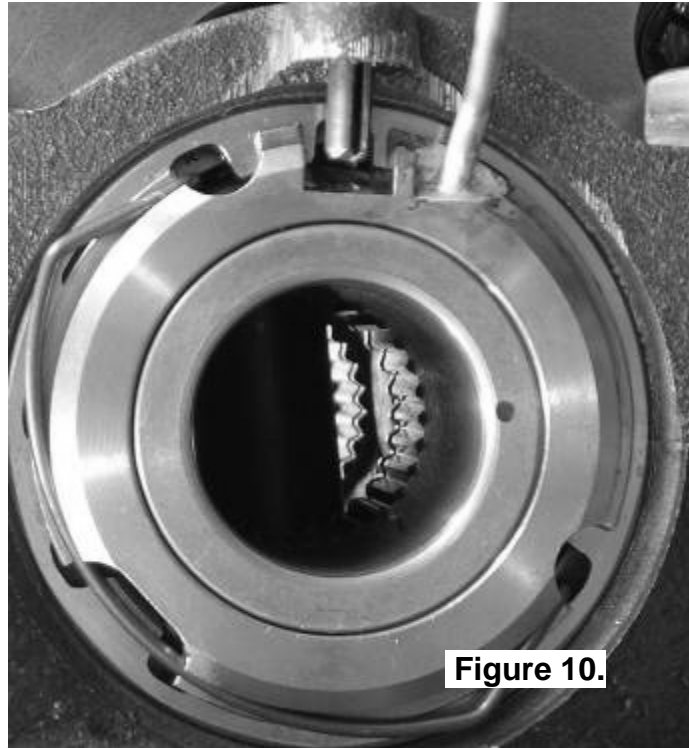

Figure 9.
- Rotate the seal housing until the square cutout lines up with the locking tab position at the center of the bearing cap, and then assemble the locking tab. The locking tab must not come into contact with the seal housing. (Fig.9.)